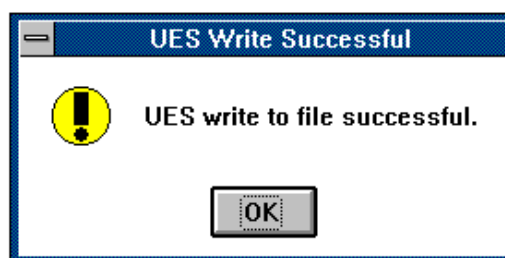

Figure 3-22. UES Write Successful Dialog Box
3. Type in the signature using only hexadecimal characters (0-9 and A-F). The Digit edit position field helps you while you are typing in the signature. Click **UPDATE**. The UES Write Successful dialog box appears (Figure 3-22) telling you the signature was saved in the .jed file. Remember, the signature is only embedded on the device **after** you perform a download.